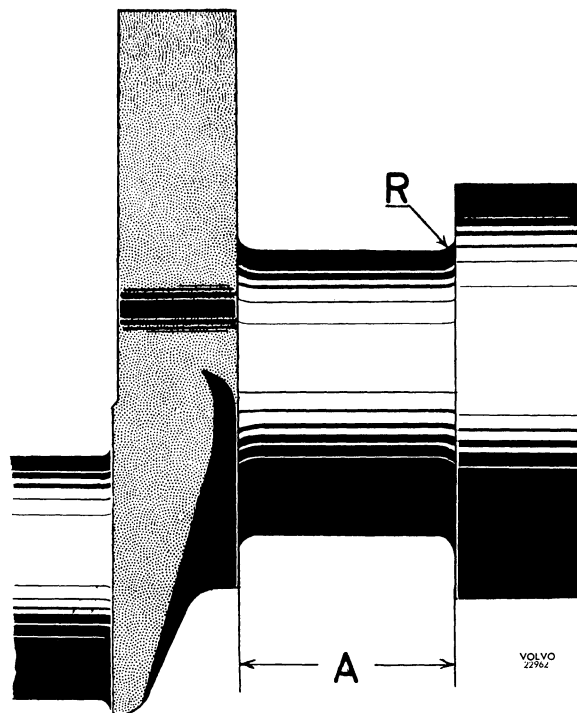

Fig. 2-33. Bearing journal
The fillets at the ends of the journals should have a radius of 2.0—2.5 mm (0.080—0.100") on all journals, see Fig. 2-33. The width measurement (A) for the pilot bearing depends on the size of the journal and should be ground in order to obtain the correct measurement.